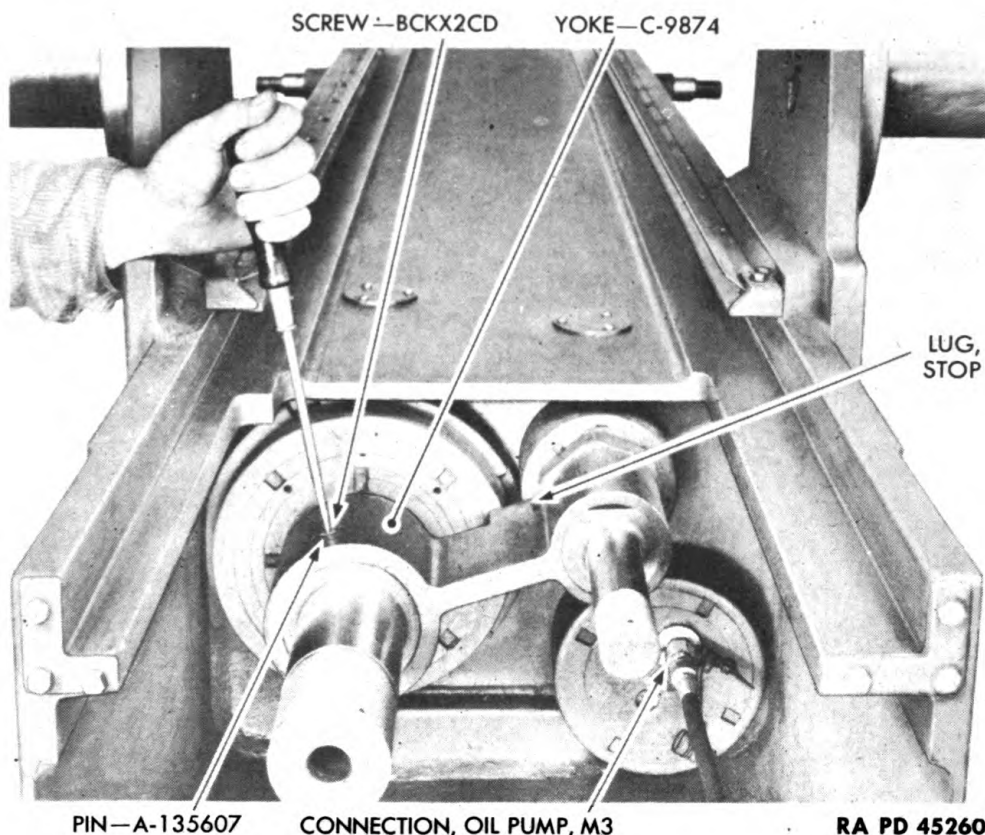

Figure 129—Installing Piston Rod Yoke Screw
(19) Resume pumping oil into the recuperator cylinder until the number of strokes required to pump 1 quart of oil has been made. **NOTE:** While oil is being pumped into the recuperator cylinder, the stop lug on yoke C9874 will move up against the recoil and counter-recoil cylinders. Also, the oil index will move outwardly for the first 60 to 70 strokes; thereafter the oil index will remain stationary.
(20) Install recoil piston rod end pin A135607 in place in yoke and end; then secure with machine screw (fig. 129). Disconnect oil pump and remove adapter B158805 from recuperator head. Screw filling and drain plug into place.